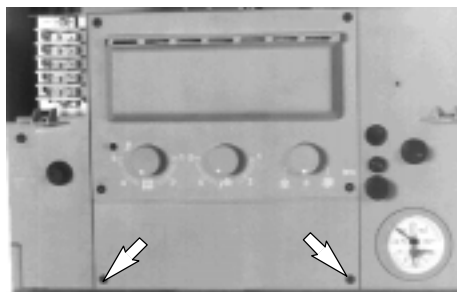

fig. 5.1
- 8 Loosen the two screws (fig. 5.1) and remove the cover of the control panel.